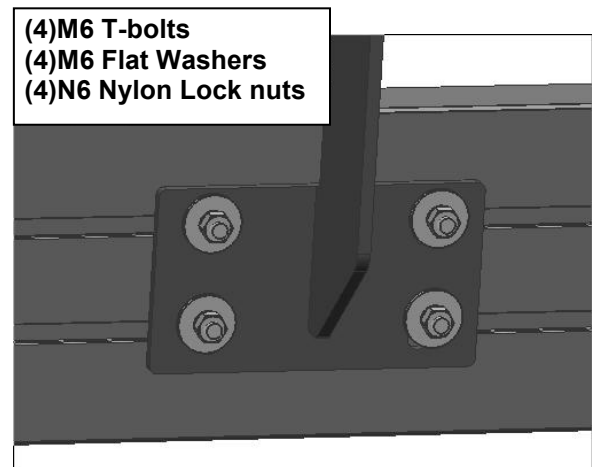

Fig 16 Bracket Installation
6. Once all (2) Brackets have been installed, Select a Running Board. Slip (8) M6 T-Bolts into each bottom channel (**Figure 15**). Carefully position the Running Board onto the Mounting Brackets. Attach the Running Board to the Mounting Brackets with (4) M6 T-bolts, (4) M6 flat washers and (4) M6 nylon lock nuts, (**Figure 16**). Do not tighten hardware at this time
- c. Drill (2) 1/4" holes through the pinch weld for each Support Bracket. **IMPORTANT:** Do not drill too close to the bottom edge of the pinch weld. Adjust the Brackets as necessary to move the slots up the body panel away from the edge. Drill the holes toward the outside of the marked slots.